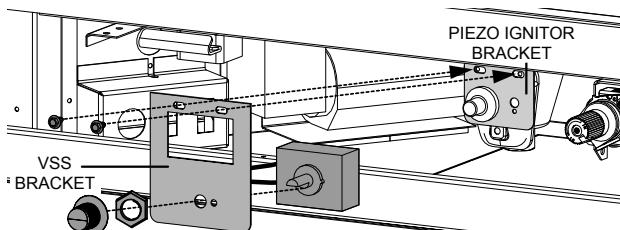

Fig. 3
8. The variable speed switch (VSS) will need to be disassembled to secure to the VSS bracket for installation. Place the VSS through the mounting bracket using the lock washer to secure it in place. Take the variable speed switch knob and install into position (**Fig. 3**).
9. To install the variable speed switch, the mounting bracket will first need to be installed. Remove the two screws securing the piezo ignitor switch bracket in place. Install the VSS mounting bracket to position then reinstall the two previously removed screws (**Fig. 3**).